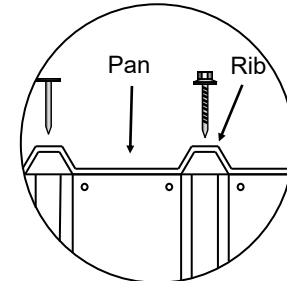

fig.2
- Using 4 x 50mm Clouts, predrill and nail the Roof Sheets to the Top Plates through the ribs, at each corner, ensuring ribs on the Roof Sheets line up with ribs on the Wall Sheets (fig.2).
- Screw the roof sheets to the front & back Top Plates, using 1 x Roofing Screw per rib. (fig.2).